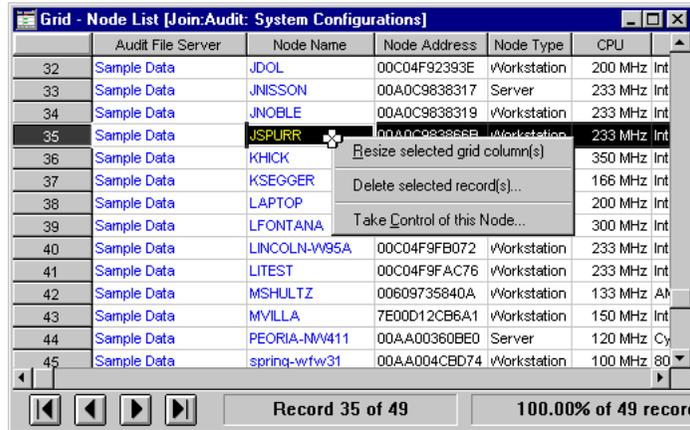

Fig. 376 NETInventory Context-Sensitive Menu
- 2 Move the cursor over any field in the selected row and right-click to display the context-sensitive menu, as shown in Fig. 376.